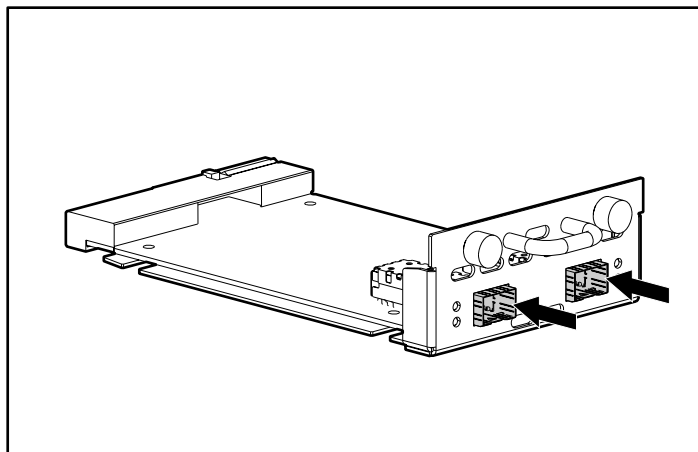

Figure 23: Fibre Channel ports
1. Locate the FC ports on the back of the router (see Figure 23).